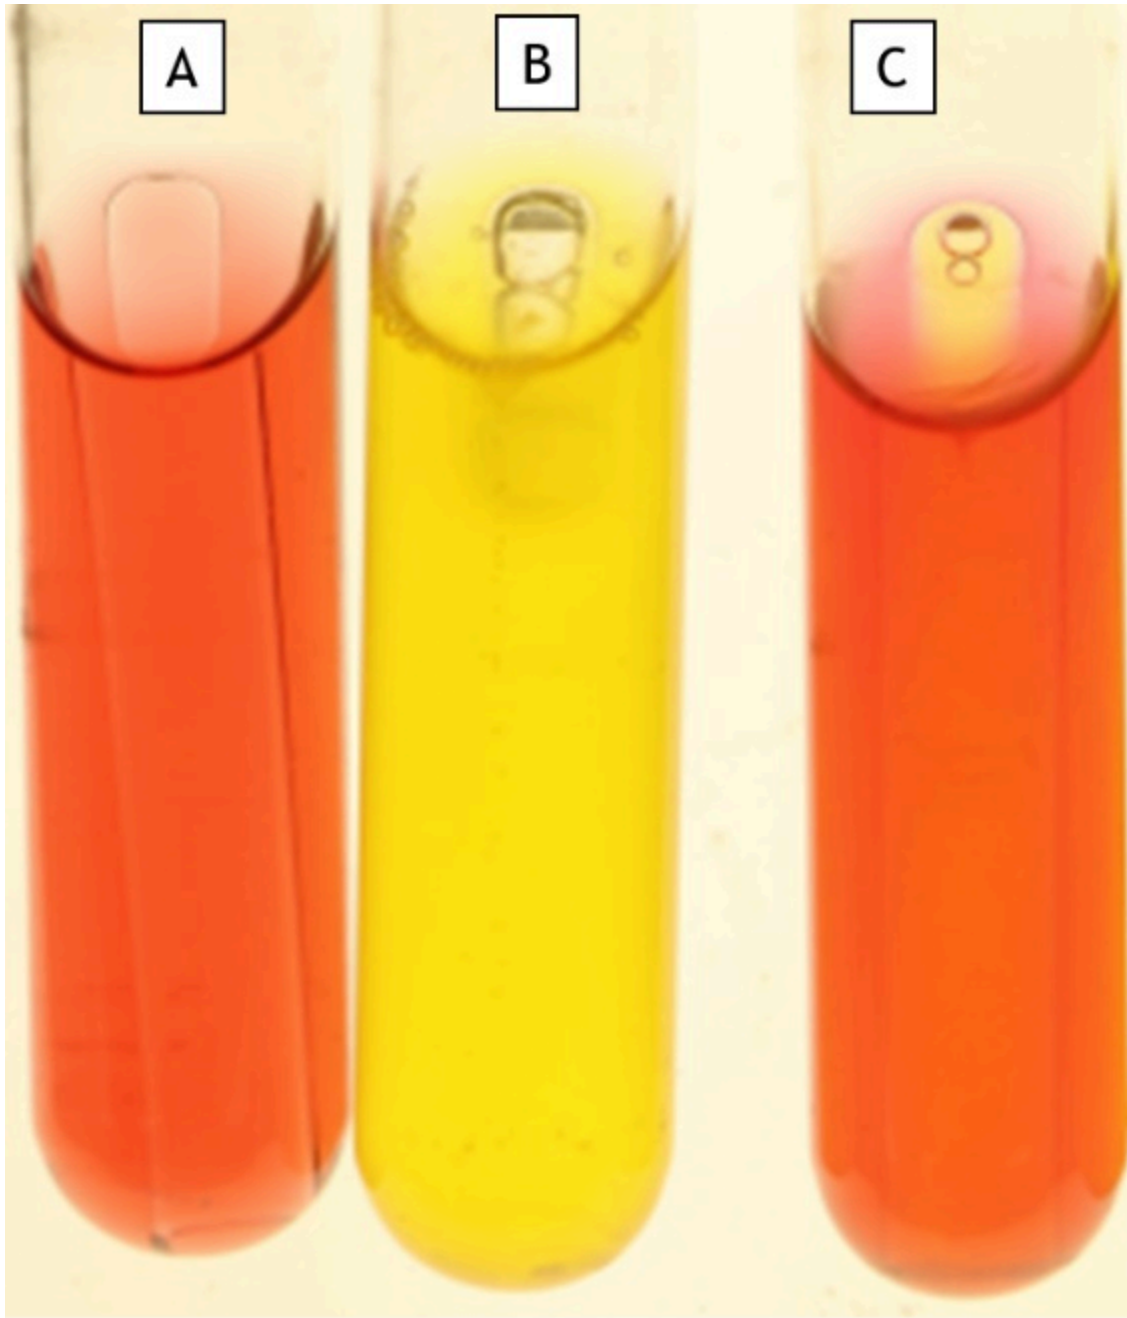

Figure 11.3 Carbohydrate fermentation test media
- NG (no growth) (Figure 11.3, Tube A)
- negative for consumption of the carbohydrate, but the strain grew (Fig. 11.3 Tube C)
- positive for consumption of the carbohydrate with gas production (Fig. 11.3 Tube B)